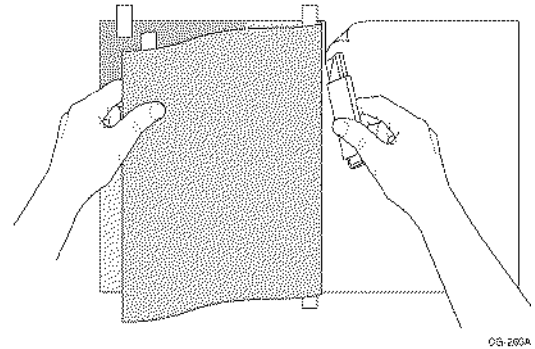

Figure 1. Remove Liner with Center Hinged Method
1. Position the 3M DI-NOC graphic, using strips of Scotch™ Masking Tape to hold the graphic to the substrate. Then, apply a strip of masking tape 5.1 cm - 7.5 cm wide, horizontally across the top of the graphic. See Figure 1.
2. Fold half of the 3M DI-NOC graphic back over the hinge. Peel off the liner all the way to the tape hinge. Then cut just the liner along the hinge. Discard the liner. See Figure 1.